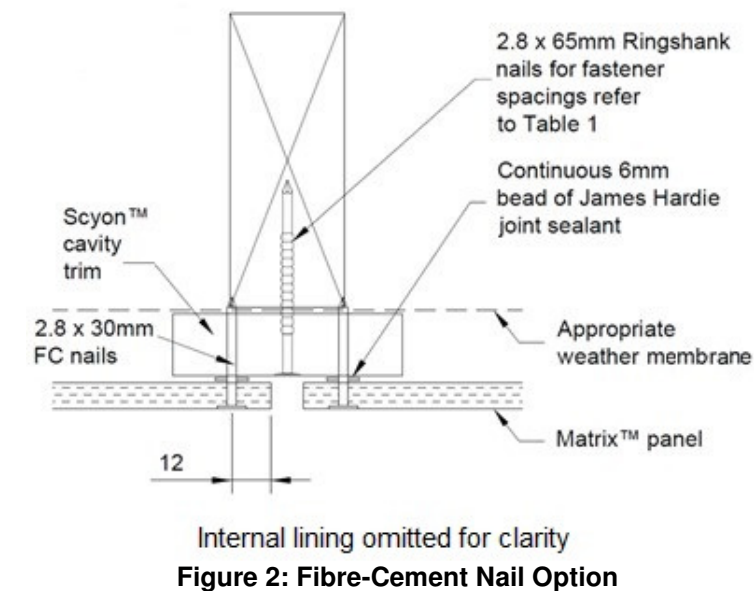

Figure 2: Fibre-Cement Nail Option
**On-Stud Fixing:** Vertical panel joints must be located centrally over the cavity trim. Refer to **Figure 2**.
Fixings and fastener may be minimum Class 3 finish if concealed and/or sealed, but must be Class 4 if exposed to the elements. Use 2.8 x 30mm galvanised fibre cement nails as in **Figure 2**.